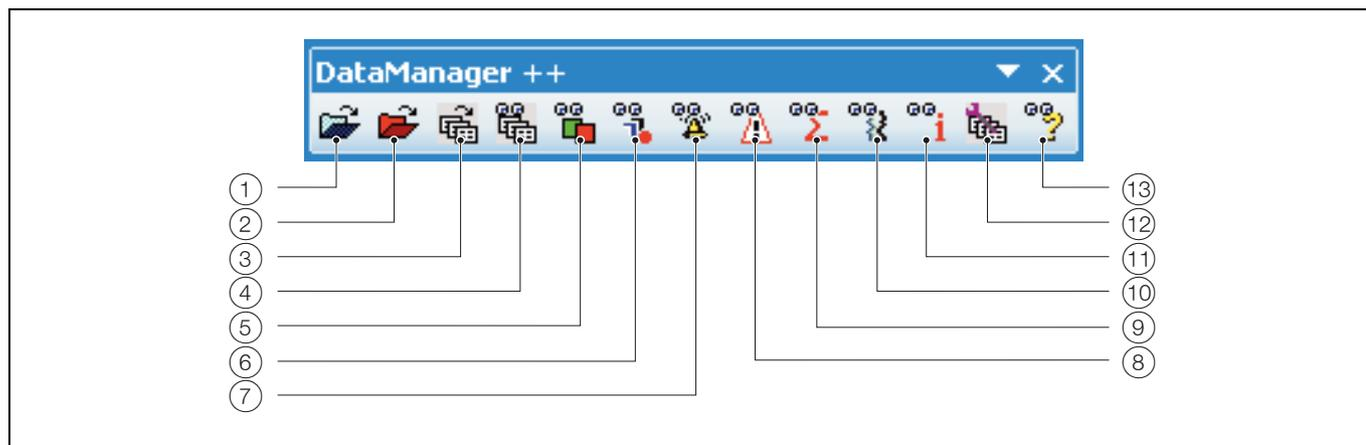

Fig. 1.1 DataManager Toolbar
1.2 DataManager Toolbar – Fig. 1.1
DataManager creates a new Excel toolbar and places it with the other in-view toolbars at the top of the screen. However, the toolbar can be dragged to any position in the window. If the DataManager toolbar does not appear, select *DataManager++* from the *View / Toolbars* menu. Position the mouse pointer over each of the buttons to view a description of the button – see Fig. 1.1.
All files in the database can be viewed and analyzed as required using the buttons on the DataManager toolbar – see Fig. 1.1.